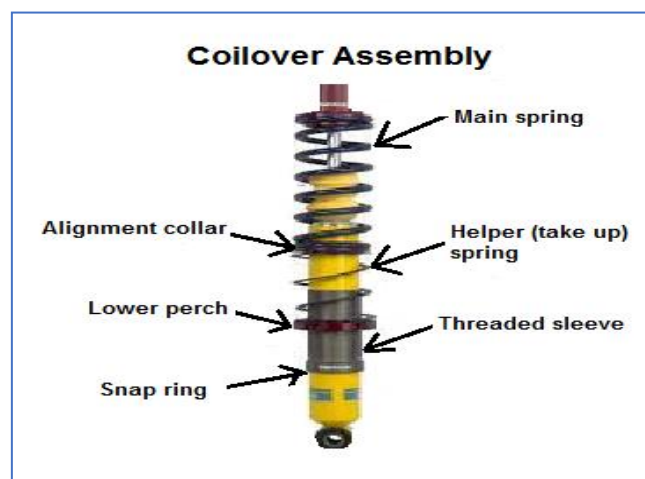

Figure 20
25.18 Helper or take up springs with alignment collar are allowed and must be mounted beneath the main external coil spring as per *Figure 20*. Only one take up spring and collar allowed per coil over assembly. Maximum take up spring rating must not exceed 5 pounds. The only purpose of the take up spring is to support the main spring if it is released during droop (*Figure 20*).